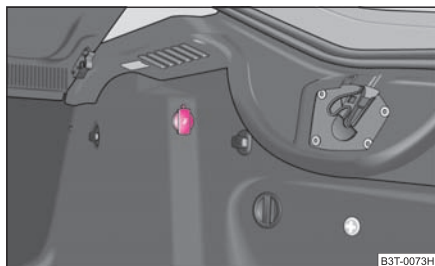

Fig. 90 Luggage compartment: Power socket
- Open the cover of the power socket ⇒ **fig. 90**.